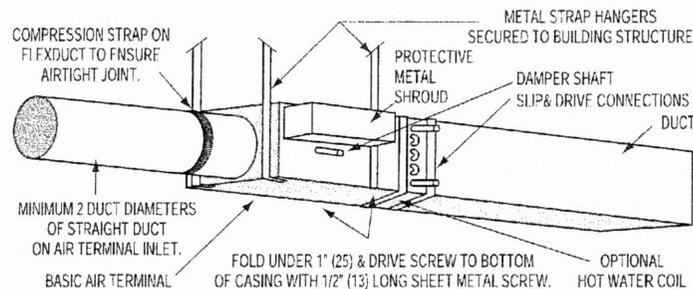

Figure 1: Single Duct VAV Terminal Unit w/ Hot Water Heat Support Using Hanger Straps.
Slip each inlet duct over the inlet collar of the terminal. Fasten and seal the connection as described in the job specification. The diameter of the inlet duct for round inlets (unit size 4 through 10) must be equal to the listed size of the terminal. The inlet collar of the terminal is made 1/8" (3) smaller than listed size in order to fit inside the duct (see figure 1). Unit size 12 through 16 utilize flat oval inlet collars and unit size 24 x 16 has a rectangular inlet collar. The flat oval inlets are undersized for flexible duct connection. For hard inlet duct connections, refer to submittal drawing for dimensional data.